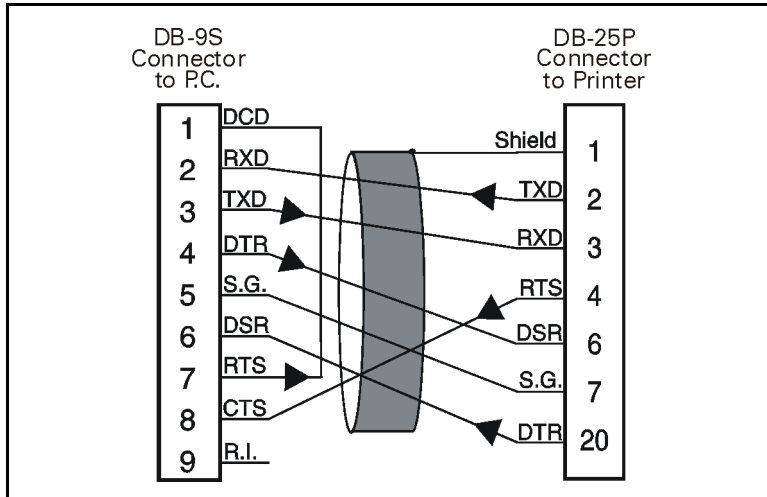

Figure 37
- **9-pin to 25-pin cable** – (null modem cable) must have a 9-pin “D” type (DB-9S) connector on the end that is plugged into the serial port at the computer and a 25-pin “D” type (DB-25P) connector on the other end that is plugged into the connector at the rear of the printer. Figure 37 shows the required cable connections.